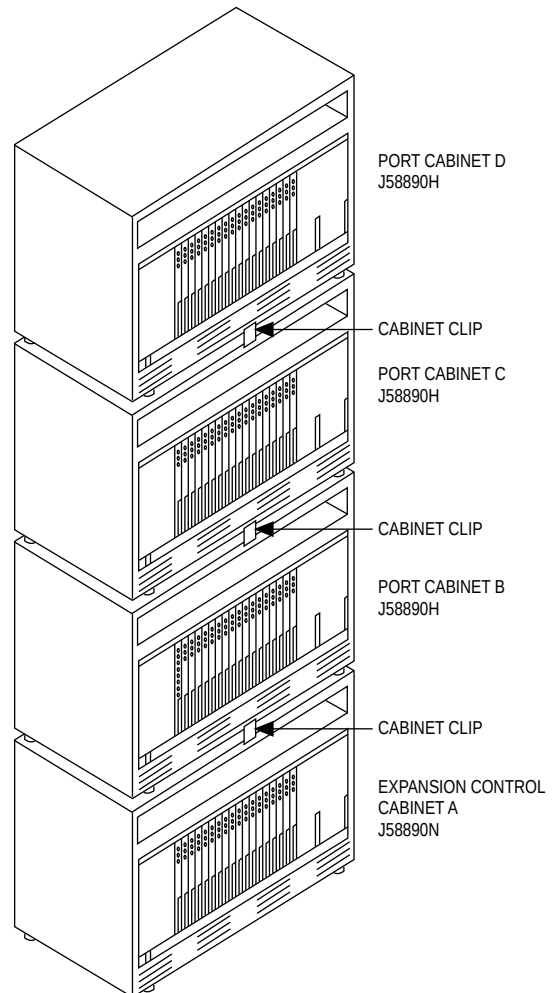

Figure 12-5. 4-Cabinet Port Network — Front View, Doors Removed
2. See DANGER. Stack port cabinet(s) on top of control cabinet or expansion control cabinet A (or B if present) (see Figure 12-5).